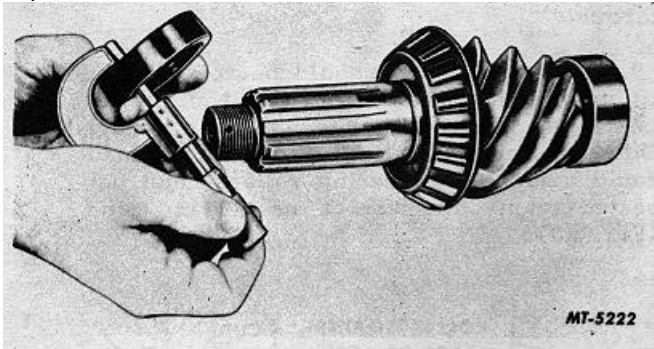

Fig. 12 Measuring Spacer Thickness
11. When preload does not agree with "SPECIFICATIONS", bearing load may be increased by installing a thinner spacer or decreased by using a thicker spacer. Determine spacer thickness using a micrometer (Fig. 12) and make a new selection accordingly. Closer adjustment may be obtained by working spacer to desired thickness, using emery cloth on a flat surface.